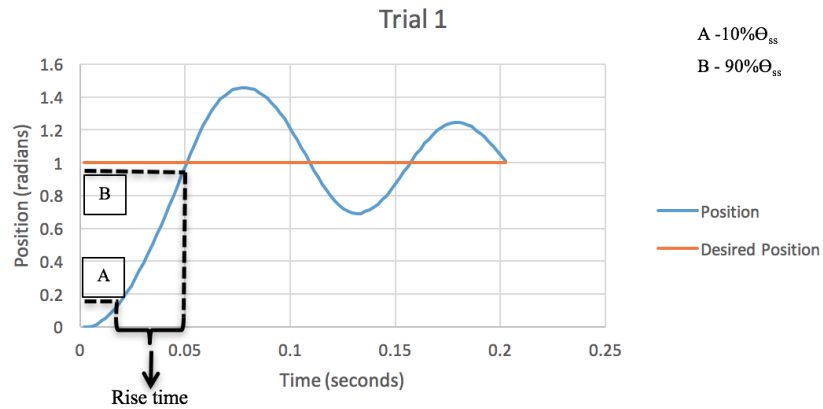

Figure 3. Underdamped system. The rise time is the time it takes for your system to go from 10% to 90% of the desired position.
1. **Set the derivative gain, K_d , to zero and only change the proportional gain, K_p .** Change K_p so that you have an acceptable response in regards to how fast your system reaches its final position. Note that since K_d is zero you will get oscillations around the desired position (undamped system). *Hint: $K_p=100$ is a good value to start with.* **Increase K_p it until you get a rise time (defined in Figure 3) close to 0.038 seconds.**